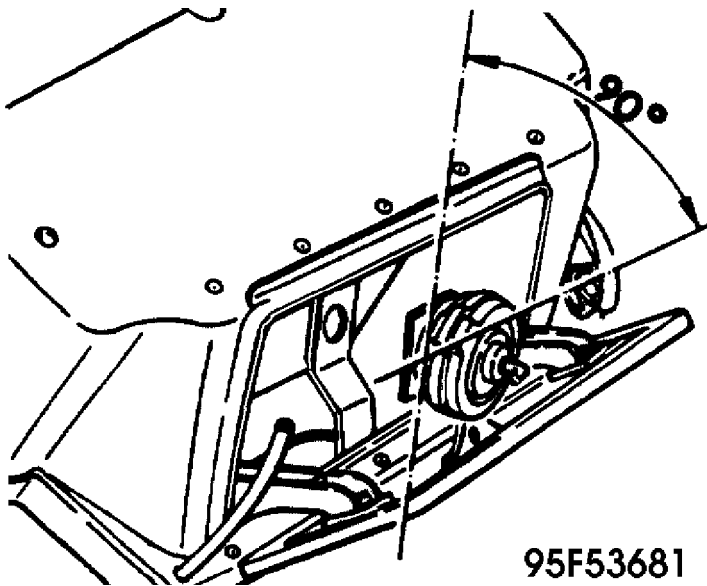

Fig. 7: Installing Fresh Air/Recirculation Servo
- Install vacuum servo to service bracket and lock in place by turning servo 90 degrees (1/4 turn). See Fig. 7.